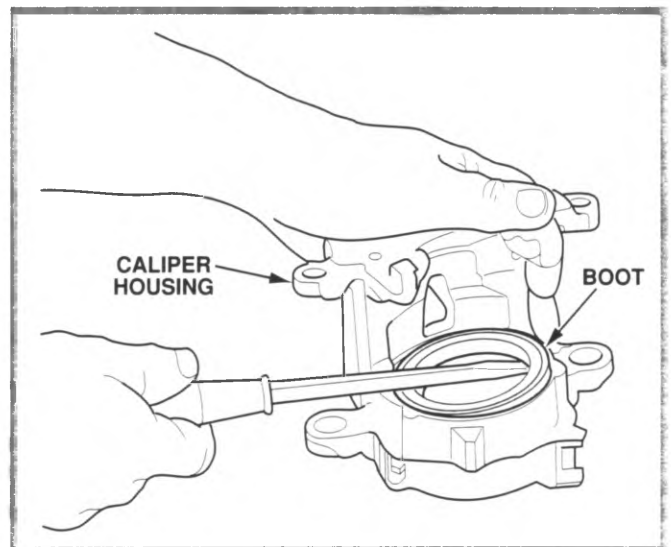

Figure 6-41, Remove Piston Boot
9. Pry boot out of caliper (figure 6-41). Extend screwdriver across caliper bore under the boot and pry up. Do not scratch the caliper bore, the piston seal groove or the boot groove. Discard boot.